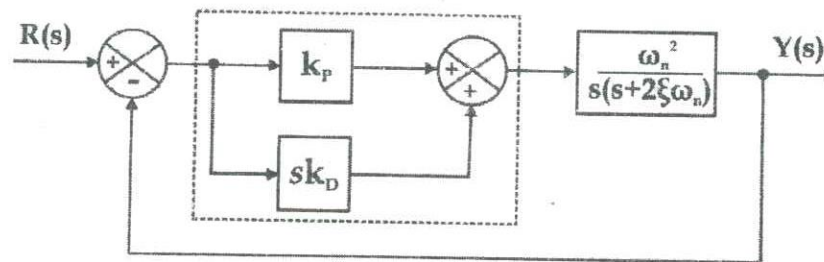

Figure Q1(b)
- b) Show that the *damping* of the system shown in Figure Q1 (b) can be improved by adding a PD type controller. All the notations have their usual meanings.